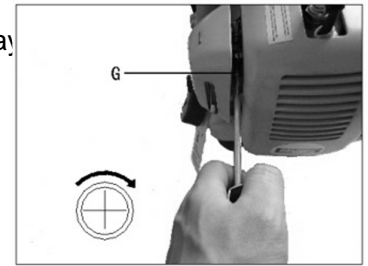

Fig. 15
1. Locate the idle adjustment screw (G) on the carburetor (Fig. 15).